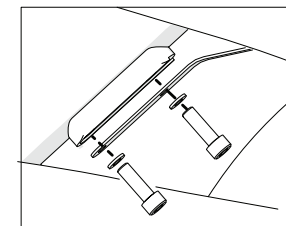

Figure 7
2. Using a 5 mm hex key, remove the two bolts holding the brake pad against the frame (Figure 7).